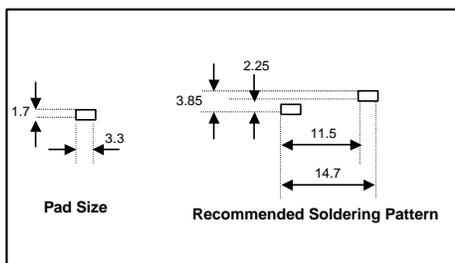

Figure 2: Solder Pad Layout
- Follow the recommended layout for Luxeon Emitter solder pads as shown in figure 2.